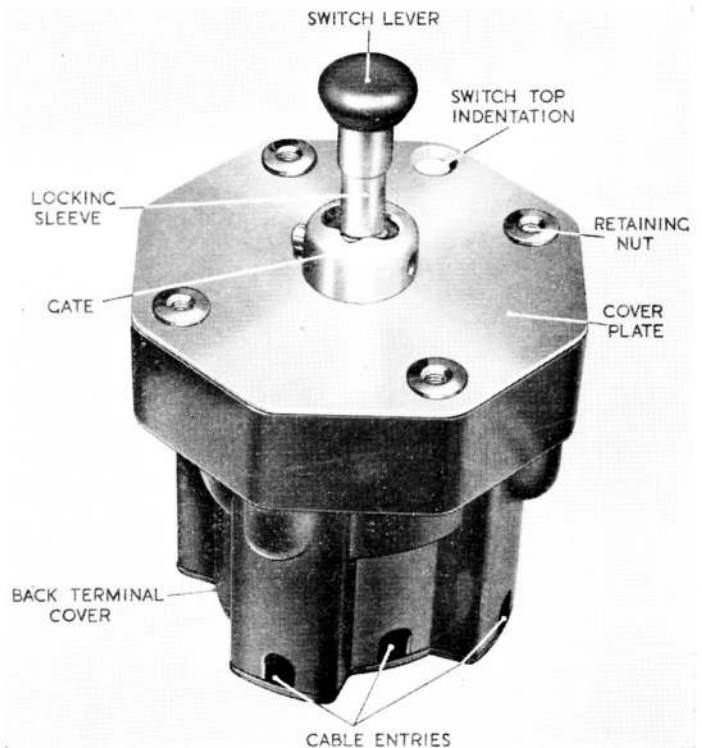

Fig. 1. Type D.4601 switch
2. The top of the switch is indicated by a deep circular indentation on the cover plate, and a provision for its acceptance on the moulded body. When installed on the dashboard, this marking must be uppermost. All references in this chapter to switch lever positions and component positions assume that the switch is in this "upright" position (fig. 1).
3. The switch consists of a moulded body incorporating four toggle type snap switches, each two diametrically opposite each other being at right-angles to the other two. There are two cover plates, one moulded and covering the terminals of the main wiring connections at the rear of the main switch, and the other of metal integral with the switch lever arm assembly complete. (Fig. 1, 2 and 3.)
spring-loaded locking sleeve which can pass the "gate" on the top cover in the up, right and left positions and so operate the desired toggle switch. Owing to the design of the "gate", the down position cannot be selected until the switch lever is extended against its spring to enable the locking sleeve to pass over the "gate" entry. (Fig. 1.)
should be made to fig. 1, 2, 3 and 4. Inspection should then be carried out in the following sequence.